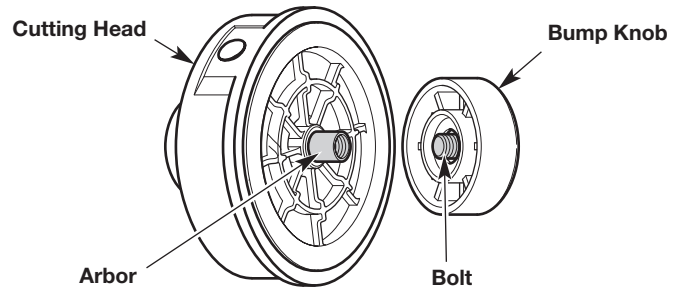

Fig. 16
1. Hold the cutting head in place (Fig. 16). Turn the bump knob clockwise to unscrew it from the cutting head (Fig. 16).
2. Slide the cutting head off of the arbor (Fig. 16).
3. Inspect the bolt inside the bump knob to make sure it moves freely (Fig. 16). Replace the bump knob if it is damaged.
5. While holding the inner reel and outer spool together, slide the cutting head onto the arbor (Fig. 16). Make sure that the cutting head fits securely onto the hexagonal portion of the arbor.
6. While holding the inner reel and outer spool together, screw the bump knob on counterclockwise (Fig. 16). Tighten the bump knob securely.